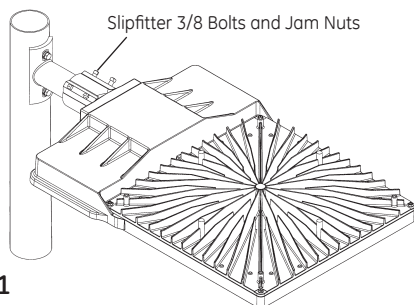

FIGURE 1
- Tighten the (4) slipfitter 3/8 bolts to 10-14 ft-lbs (14-19 N.m). Tighten jam nuts after bolts have been tightened. (See Figure 1)